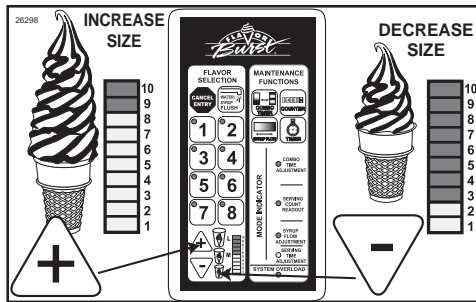

Figure 196
- Press the “+” key to increase the serving size or press the “-” key to decrease the size until the desired number of bar graph lights are illuminated. (See Figure 196.)